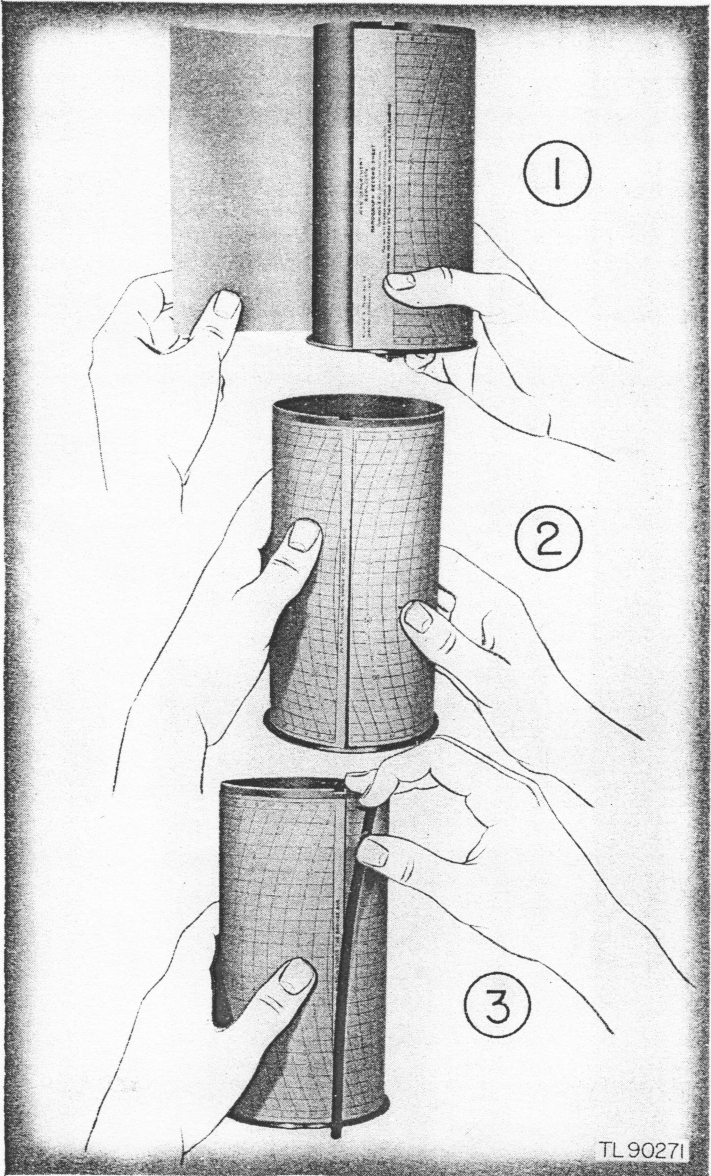

Figure 5. Installing chart on Clock ML-145.
c. Take a new chart and make a notation (not in the margin) of the date it is being installed, mark one of the .00 reference lines according to the local pressure range (par. 13b (2)), and install the chart as follows:
(1) Lay the left-hand side of the chart on the cylinder so the actual beginning of the chart is lined up with the right-hand sides of the bottom slot and the top notch of the cylinder, and so the lower edge of the chart is snug against the bottom flange of the cylinder (fig. 5 ①).
(2) Wrap the chart clockwise around the cylinder, taking care to keep the beginning firmly in place and the bottom edge against the flange. Lap the chart end over the beginning (fig. 5 ②).
(3) Hold the chart clip so the outside of the curve is toward the chart. Insert the straight end of the clip into the slot at the bottom of the cylinder, lay the clip flat against the lapped portions of the chart, and push the hooked top down to engage the top notch of the cylinder (fig. 5 ③).